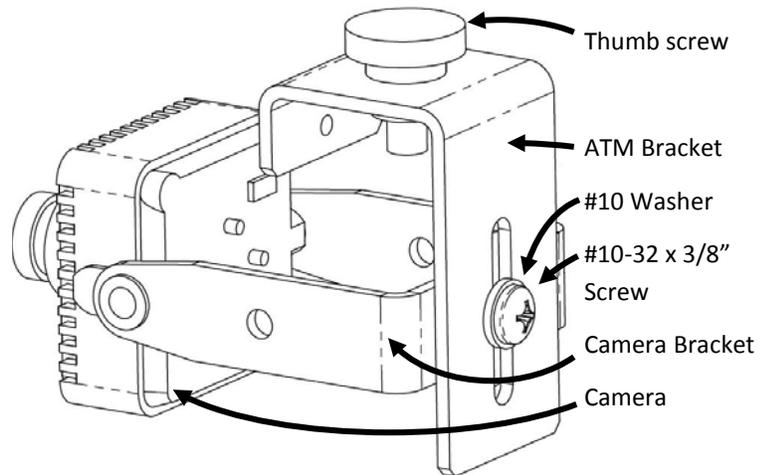

Figure 3 - Completed Assembly Using ATM Bracket
6. Attach the camera bracket to the ATM bracket (see Figure 3) using the #10 washer and #10-32 screw from the hardware kit. Adjust the camera bracket up/down as needed before tightening the screw.